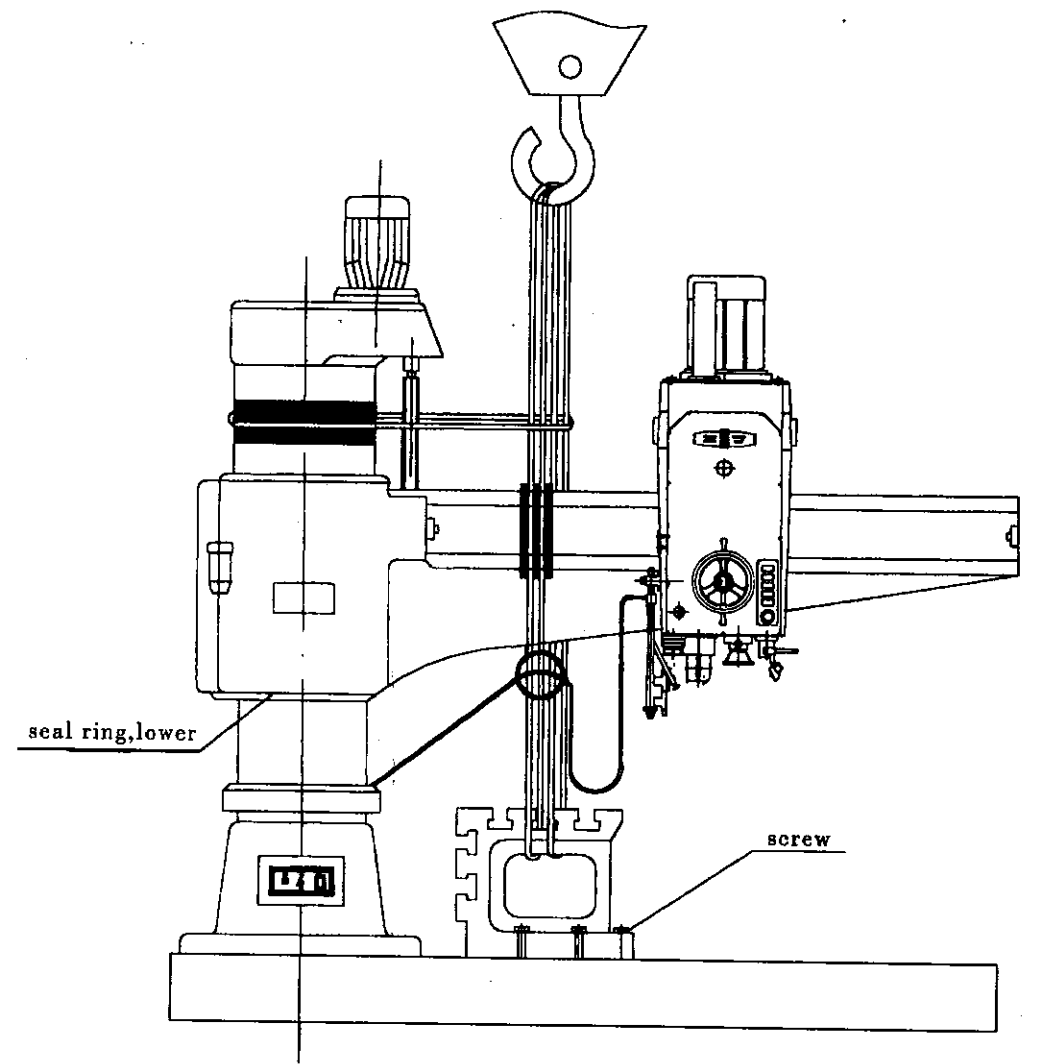

Fig 2.2 Overall Unit Handling diagram
2.2 Overall unit handling (Fig. 2.2)
1. In respect to this machine tool, floating place the lower seal ring of the arm sleeve, and installation the left end cover of the arm in an open state, these are not normal assembling position, please install them in the correct position during the installation of the machine tool (See Fig. 2.2).